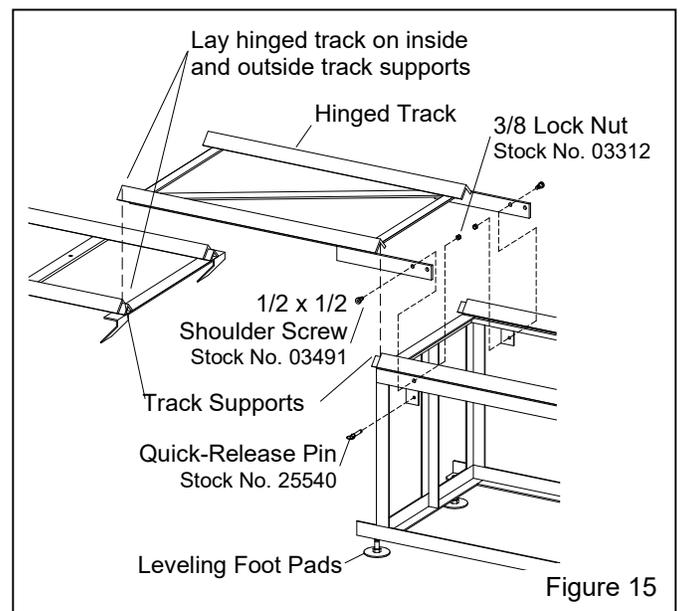

Figure 15
3.5.4 Attach hinged track – Figure 15
3.5.4.1 With the door open, place the hinged track on the inside and outside track supports, as shown in Figure 15. Maneuver the outside track as needed to align the hinge track bolt holes with the outside track bolt holes, while making sure hinge track is fully resting (with no gaps) on the track supports.